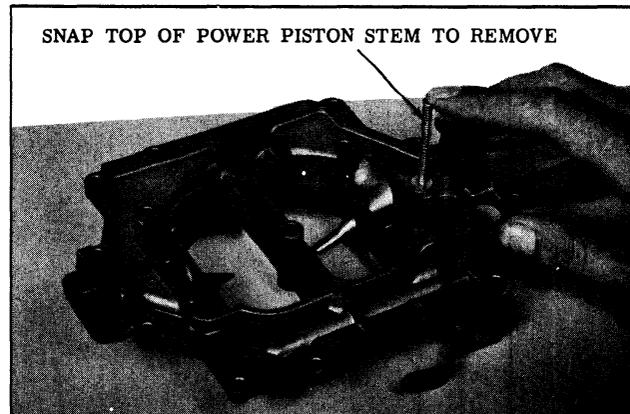

Fig. 8-94 Removing Power Piston
17. Remove the power piston assembly by depressing the stem and allowing it to snap into position again. (See Fig. 8-94)